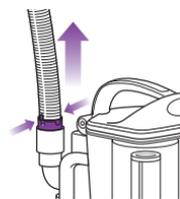

Fig. 27
- Detach the stretch hose from the back of the detachable canister by squeezing the tabs together and pulling up. (Fig. 27) Straighten out the hose and look inside for blockages.